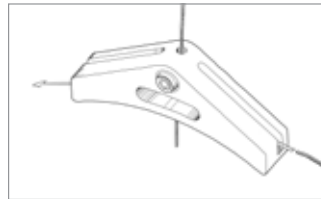

Figure 3
3. Route the NEW straddle wire horizontally through the cable carrier. You may need to gently pull back on the brake cable to make room (figures 3 & 4).